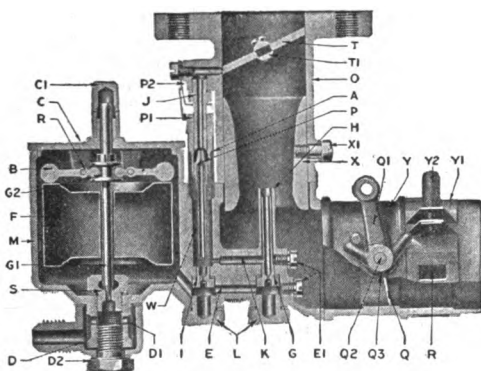

Fig. 87. Zenith Carburetor Model "T4"
**Model "T4."** One of the latest developments of the Zenith Carburetor Company is the Model "T4" carburetor, which is similar in principle to the other Zenith products, the main difference being in the refinements and adjusting features. A sectional view of this carburetor is shown in Fig. 87.